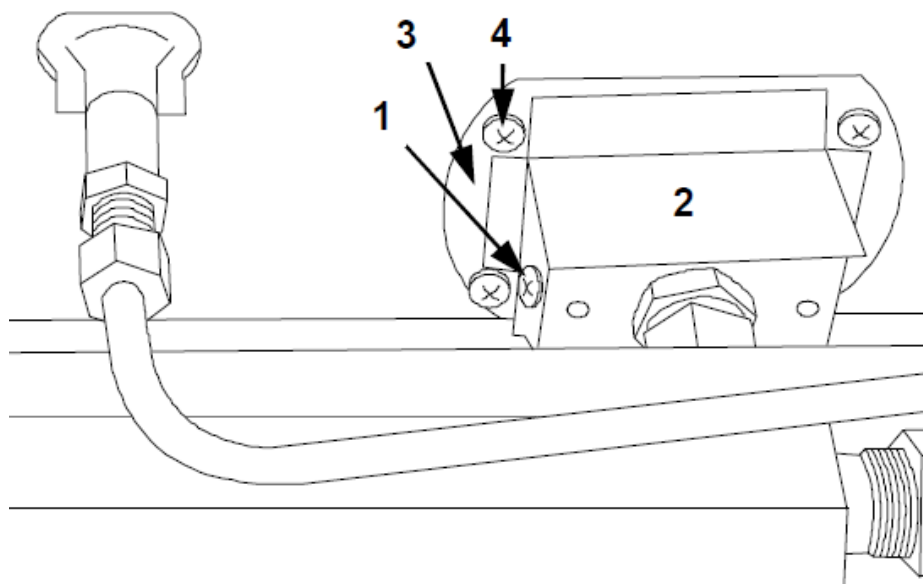

FIG.16 (Substitution of upper and lower burners)
- Remove the air-regulation burner (FIG.16-Ref.2) unscrew the screws (FIG.16-Ref.1) and slip it out;
- Unscrew the 4 screws (FIG.16-Ref.4) slip out the burner (FIG.16-Ref.3) and substitute it;